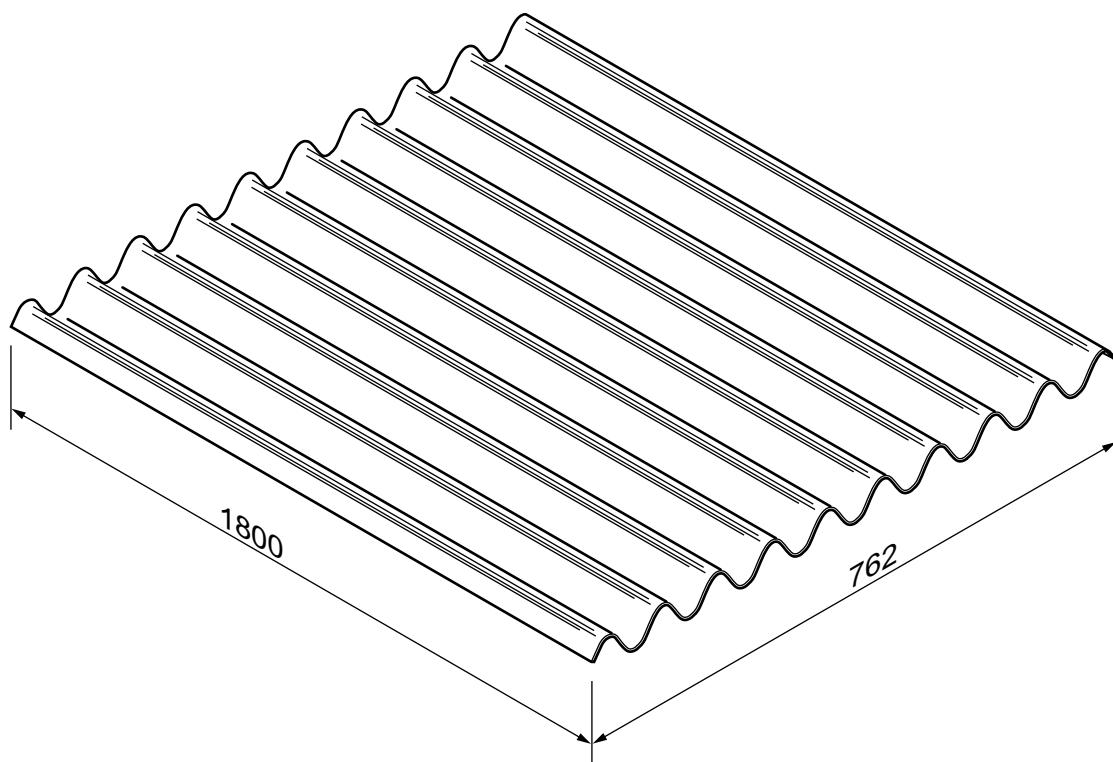

Fig. 9.2
- (b) Corrugated plastic sheet as shown in Fig. 9.2 is often used as roofing on small buildings.
- (ii) Draw on Fig. 9.2 to show where support beams should be placed to prevent the corrugated sheet from bending when it is used on a roof. [2]